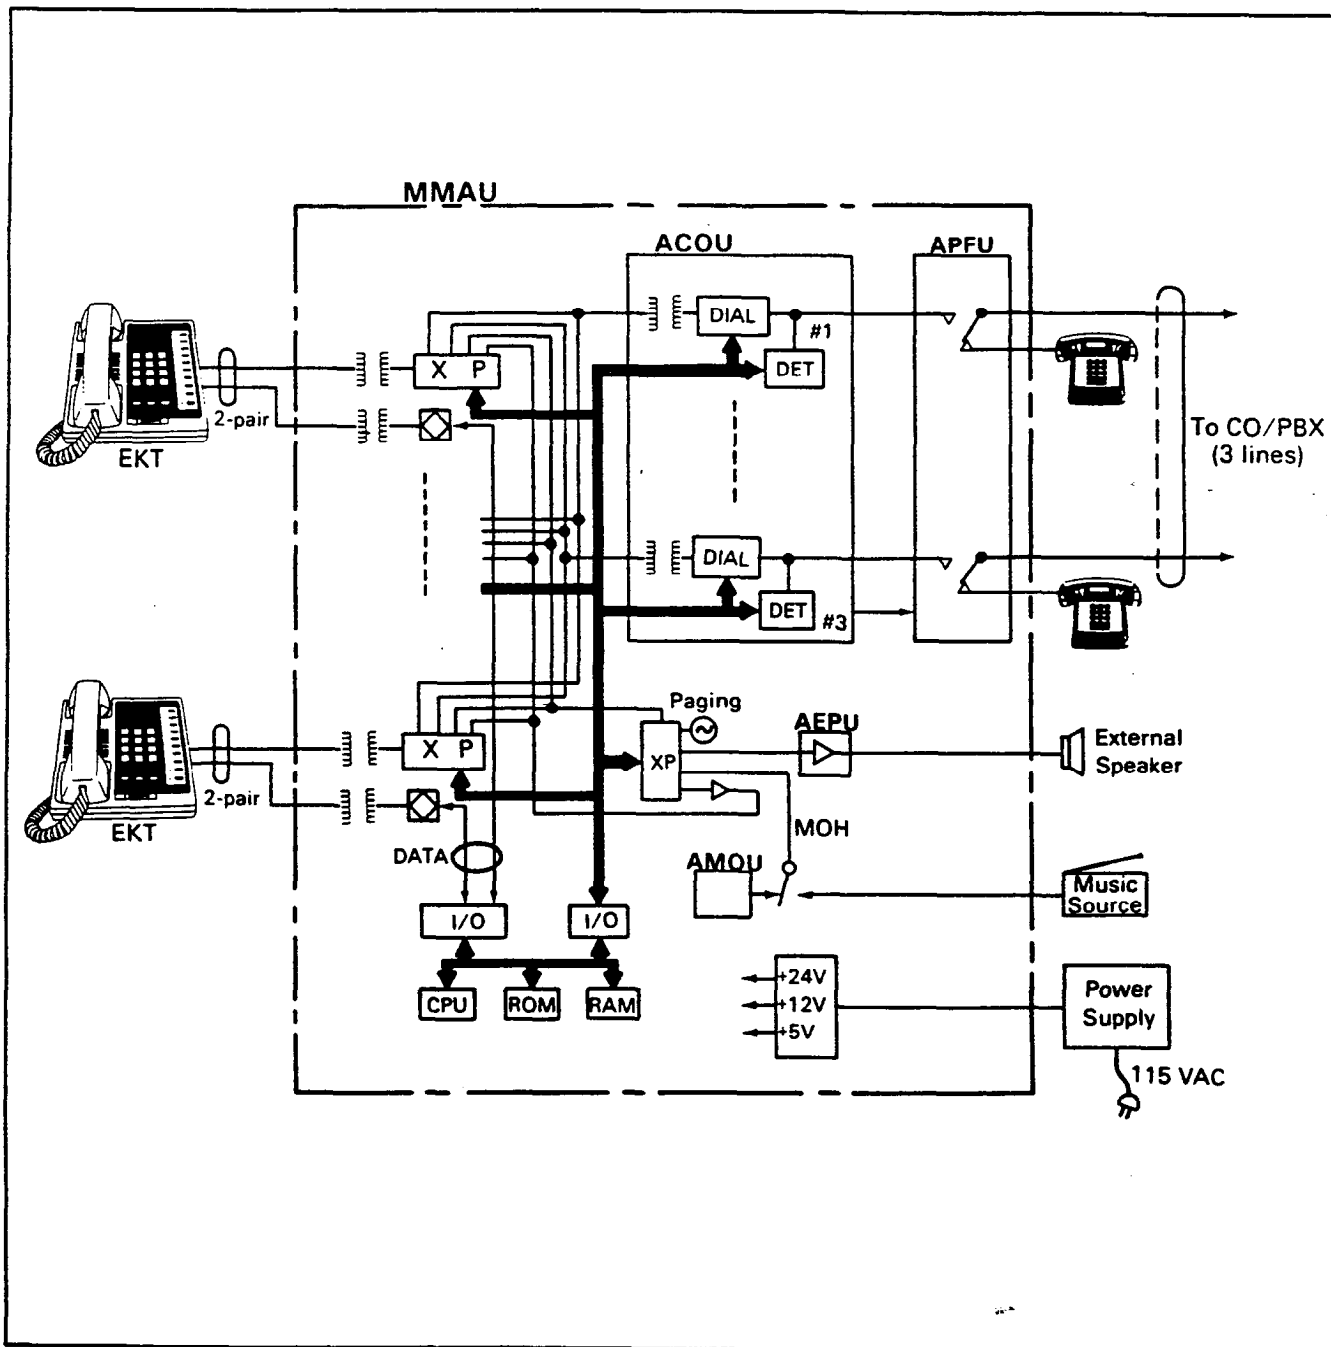

FIGURE 9—FUNCTIONAL BLOCK DIAGRAM
05.02 A functional block diagram of the **Strata S** MKSU is shown in Figure 9; it consists of the main PCB (MMAU), which includes a station interface and central control equipment, and a CO interface (ACOU). The optional Paging Amplifier module (AEPU), internal music-on-hold source (AMOU), and Power Failure module (APFU) are also shown.